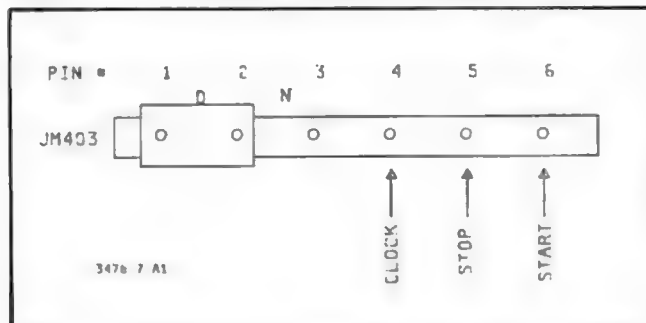

Figure 7-C-1. JM403 SA Connection
b. Move jumpers JM502, JM503, and JM403 to the "D" position (JM403 pin 1 and 2), as shown in Figure 7-C-1.
c. Obtain a Signature Analyzer. Set and connect as follows (shown in Figure 7-C-1):